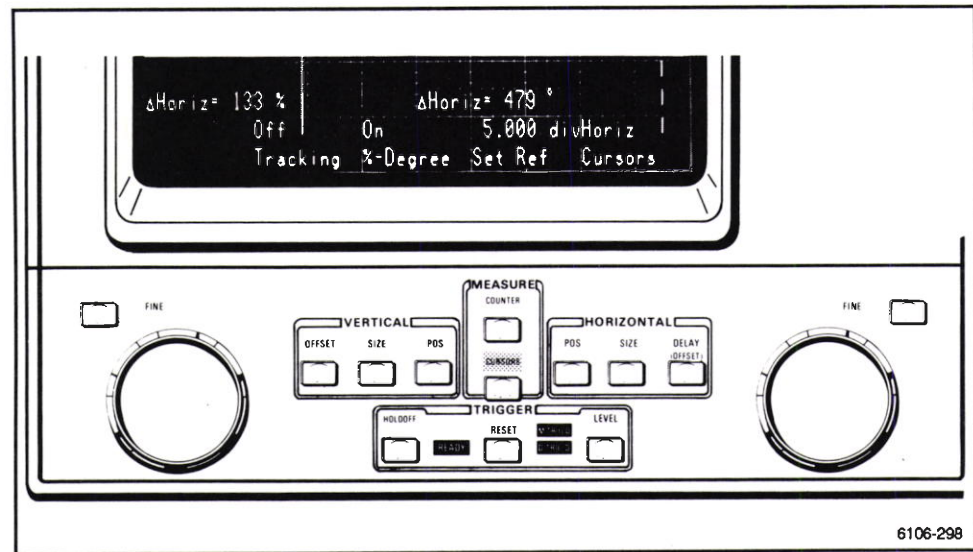

Figure 2-99. Cursor Menu with Horizontal cursors selected and % Degree set to On.
1. Connect the lagging signal to an input channel and set the display on/off button to on. Press the AUTOSET button, then connect the leading signal and set the display on/off button to on. Press AUTOSET again to setup the second signal. (See Fig. 2-99.)